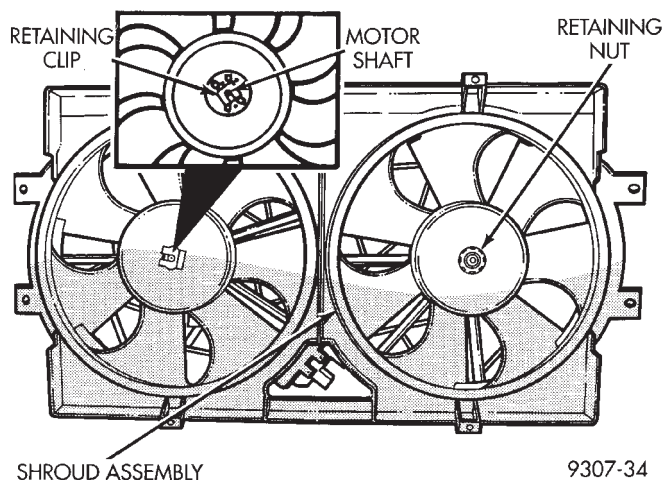

Fig. 14 Servicing Radiator Fans
(1) To remove fan from motor shaft, bench support the motor and motor shaft, while removing the fan retaining clip or nut, so that the shaft and motor will not be damaged by excessive force. **Surface or burr removal may be required to remove fan from motor shaft.** (Fig. 14). Do not permit the fan blades to touch the bench.
(2) To install fan on motor shaft, slide the fan over shaft. Support motor and shaft as above while installing fan retaining clip or retaining nut.